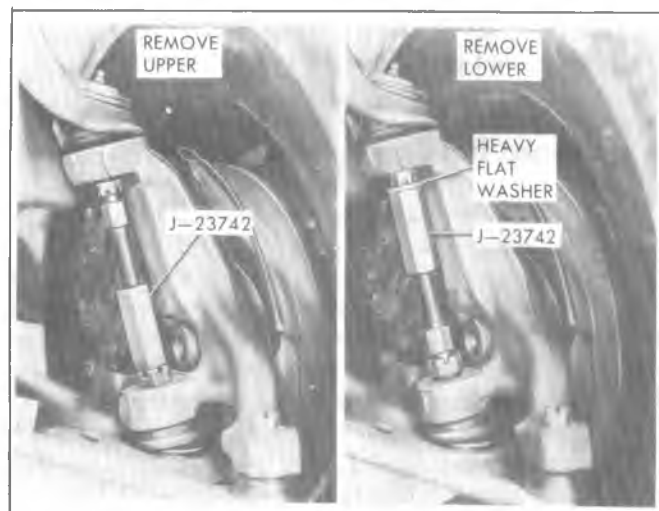

Fig. 3C-27--Disconnecting Ball Joints—Typical
5. Install "C" clamp J-24435-7 and receiver J-24435-3 with remover J-24435-2 and spacer J-24435-6 as shown in Figure 3C-25.
1. Install new bushings as shown in Figure 3C-26 using spacer J-24435-6, installer J-24435-4 and "C" clamp J-24435-7.
NOTICE: Be sure spacer J-24435-6 is in position as shown in Figure 3C-26 to avoid collapsing control arm during assembly.